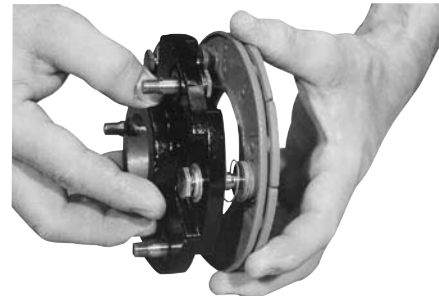

Figure 10
Step 5 Holding the pins in position, place the armature hub over one armature. Make sure the straight springs on the armature bosses fit into the grooves in the armature hub. (Figure 10)